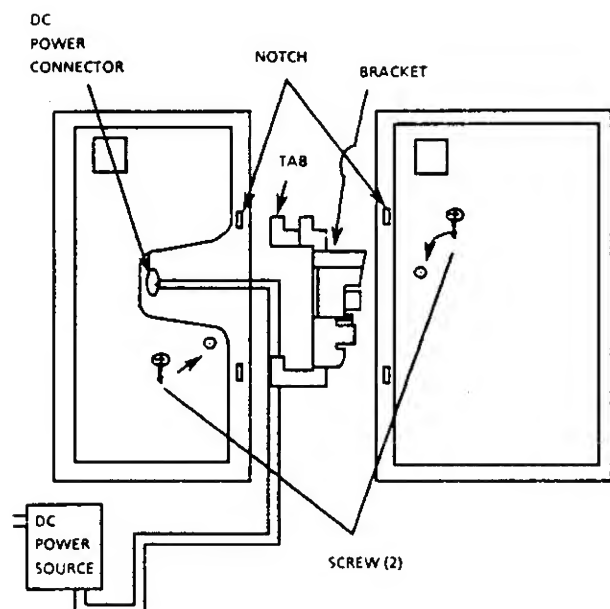

Figure 200-61 DSS/BLF Console Connection to an ETZ-16D-1 Key Telephone
3. Insert the DSS/BLF Console connector bracket (with the tabs pointing up) into the two notches located on the right side of the DSS/BLF Console, secure it with the provided screw. Refer to Figure 200-61.
6. Insert the DSS/BLF Console connector bracket (with the tabs pointing up) into the two notches located on the left side of the Key Telephone, and secure it with the provided screw. Refer to Figure 200-61.
9. Plug in the DC power cord connector into the jack located on the bottom of the DSS/BLF Console. Refer to Figure 200-61.